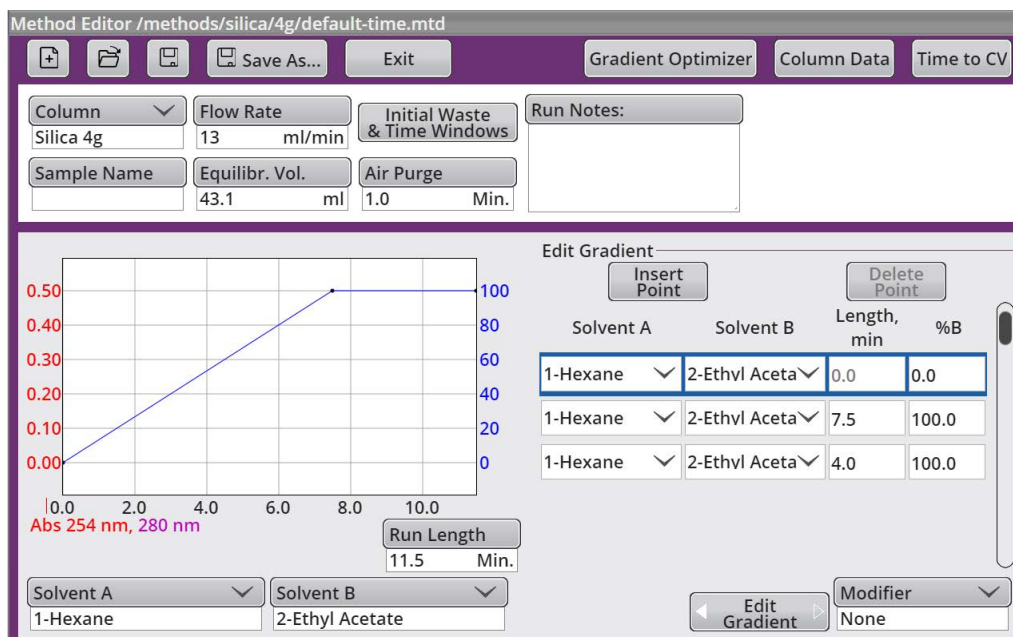

Figure 3-6 Edit Gradient screen
EDIT GRADIENT on the METHOD EDITOR screen opens a table (Figure 3-6) from which you can:
- More precisely define a gradient than is possible with a finger drag by displaying the gradient in a tabular format (Figure 3-6).